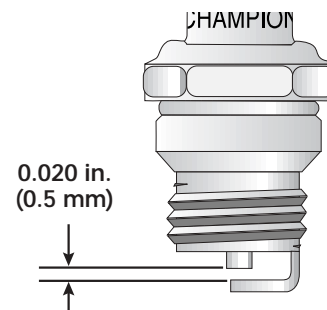

Fig. 29
3. Replace a cracked, fouled or dirty spark plug. Set the air gap at **0.020 in. (0.5 mm)** using a feeler gauge (Fig. 29).